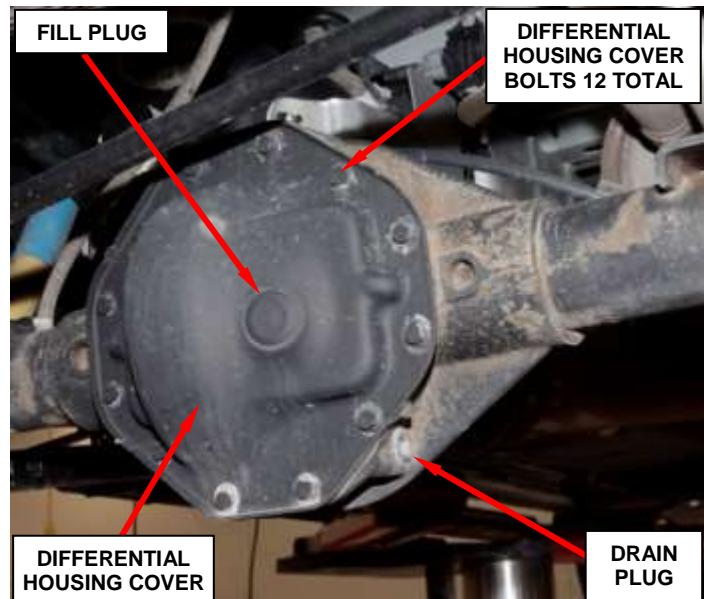

Figure 4 – Drain Rear Axle lubricant
6. Remove and save the rear axle drain plug (Figure 4).
8. Apply sealant to the drain plug threads and install the rear axle drain plug. Tighten the rear axle drain plug to 52 ft. lbs. (70 N·m) (Figure 4).
9. Remove the rear axle differential housing cover bolts 12 total (Figure 4). Save the bolts temporarily until after completing the pinion shaft lock bolt inspection in Step 12.